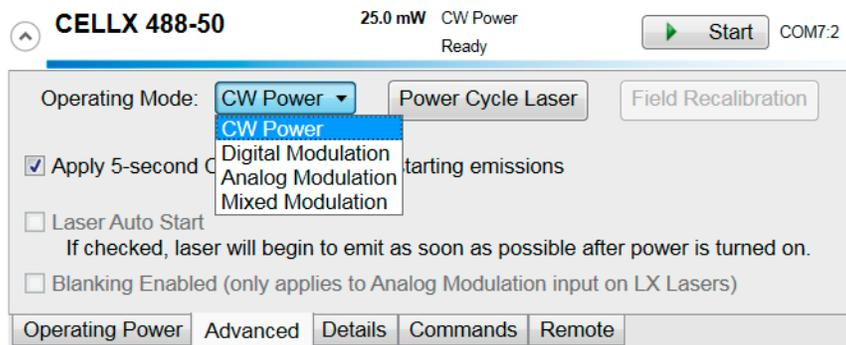

Figure 5-1. Advanced Tab–Select Operating Mode
5. From the Operating Mode drop-down menu, select the Operating Mode needed for that individual laser. Refer to the example in Figure 5-1: